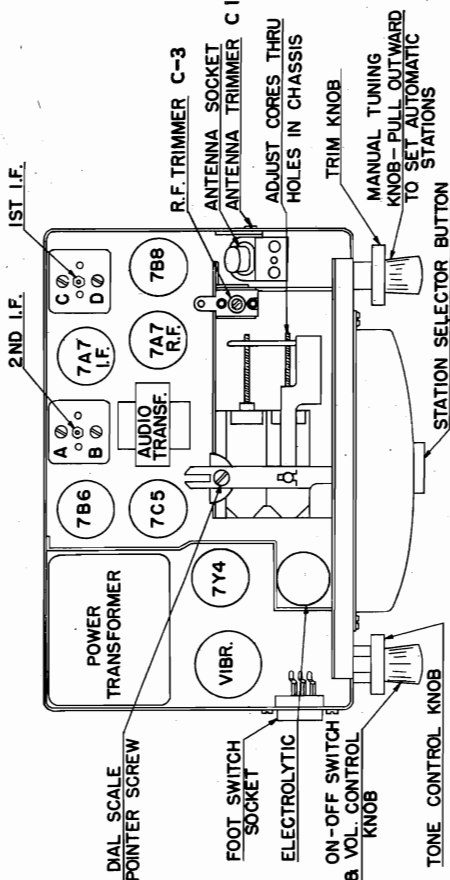
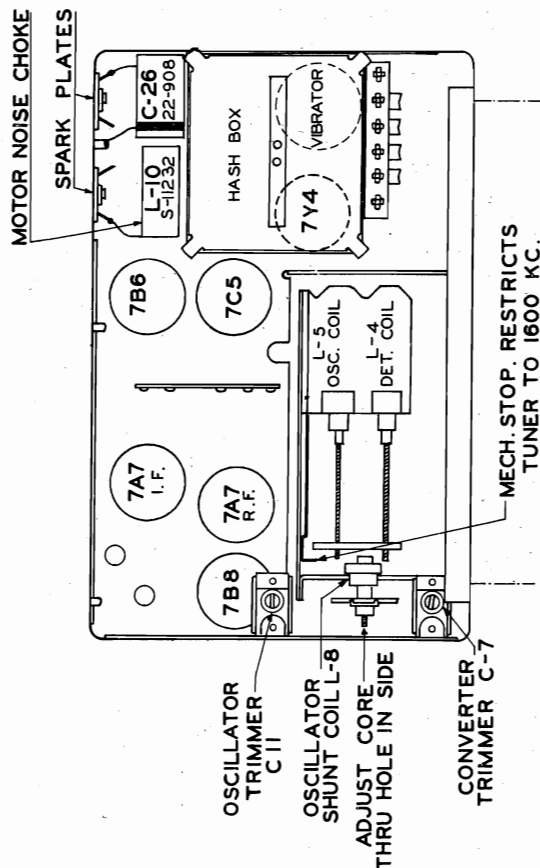

Fig. 7. Top View of Chassis
Fig. 8. Bottom View of Chassis
- 6—Adjust oscillator trimmer C-11 (Fig. 8) at 1700 Kc.
- 7—Adjust converter trimmer C-7, R.F. trimmer C-3, and antenna trimmer C-1 (Fig. 7 and 8) for maximum output reading.
- 10—Adjust oscillator core L-5 (Fig. 8) to scale at 1200 Kc.
- 11—Adjust the antenna core, R.F. core, and converter core (Fig. 7 and 8) for maximum output reading.
- 13—"Rock in" shunt oscillator coil L-8 (Fig. 8) for maximum output reading. This should be done only as a last resort. This is the same as rocking in the paddler condenser on a ganged condenser receiver.
- 4—Adjust I.F. trimmers, A, B, C and D (Fig. 7) in the order named for maximum output. Repeat the operation to assure accurate alignment.
- 4—Adjust oscillator trimmer C-11 (Fig. 8) for maximum response.
- 7—Adjust converter trimmer C-7 (Fig. 8) and R.F. trimmer C-3 (Fig. 7) for maximum response.